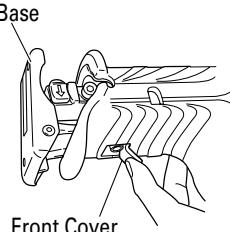

Fig. 12
- (1) Lift the front cover up as illustrated in Fig. 12.